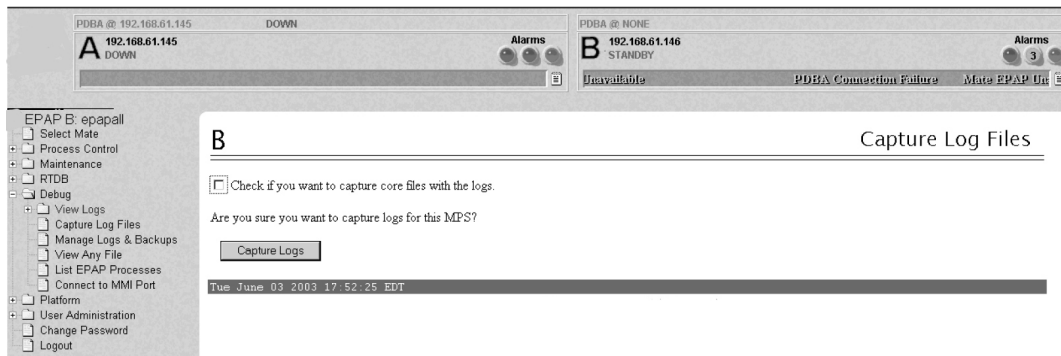

Figure 62: Capture Logs File Screen
4. Deselect (if necessary) the box labeled `Check if you want to capture core files with the Logs`, as shown in Figure 62: Capture Logs File Screen.